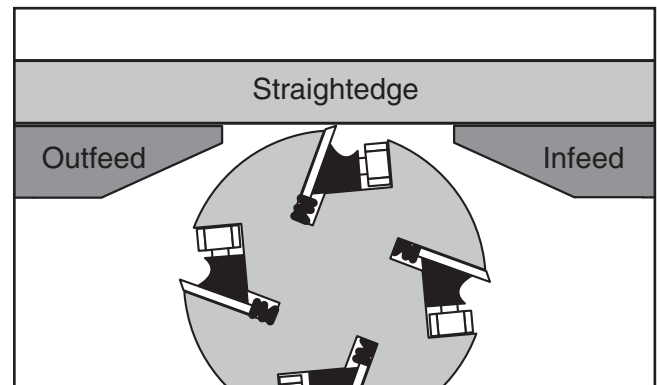

Figure 61. Infeed table even with outfeed table.
4. Adjust infeed table until it is level with outfeed table, as shown in **Figure 61**.